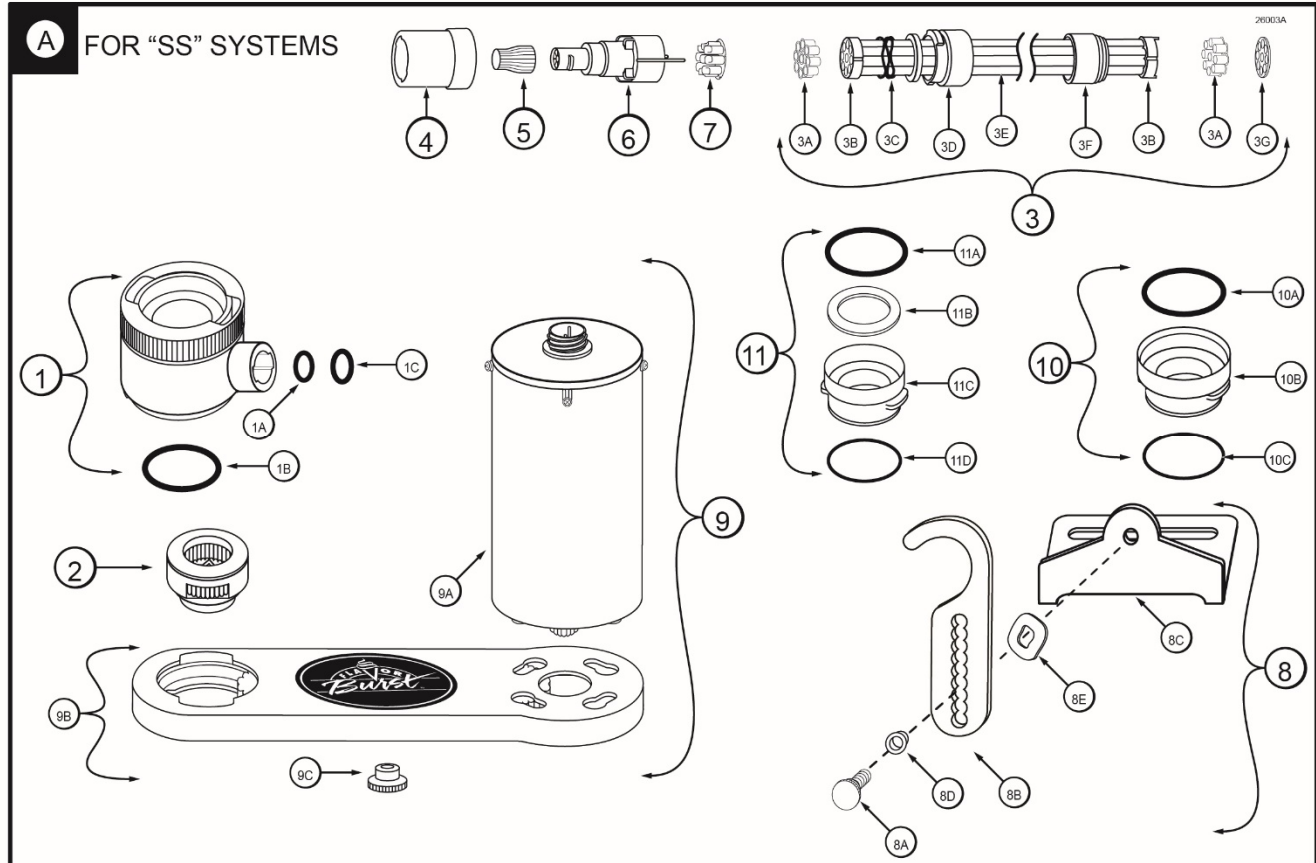

Figure 3A
**“SS” Injector Assembly and Related Parts (See Figure 3A)**